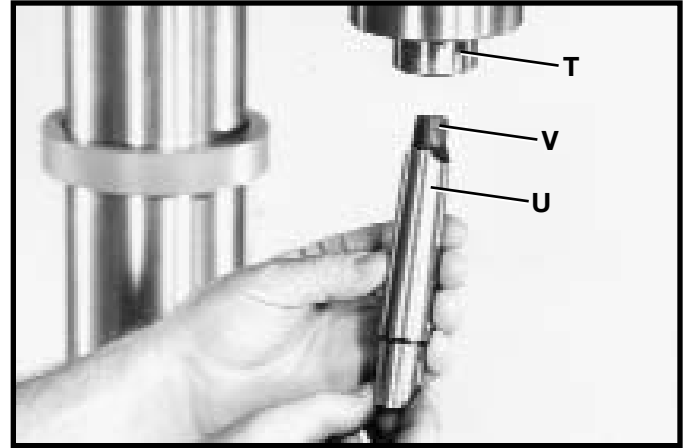

Fig. 13
13. Make certain the tapered hole in the bottom of the spindle (T) Fig. 13, and the taper on the spindle adapter (U) are clean and push the spindle adapter (U) up into the spindle, making certain the tang (V) engages and locks with the mating slot inside the spindle.